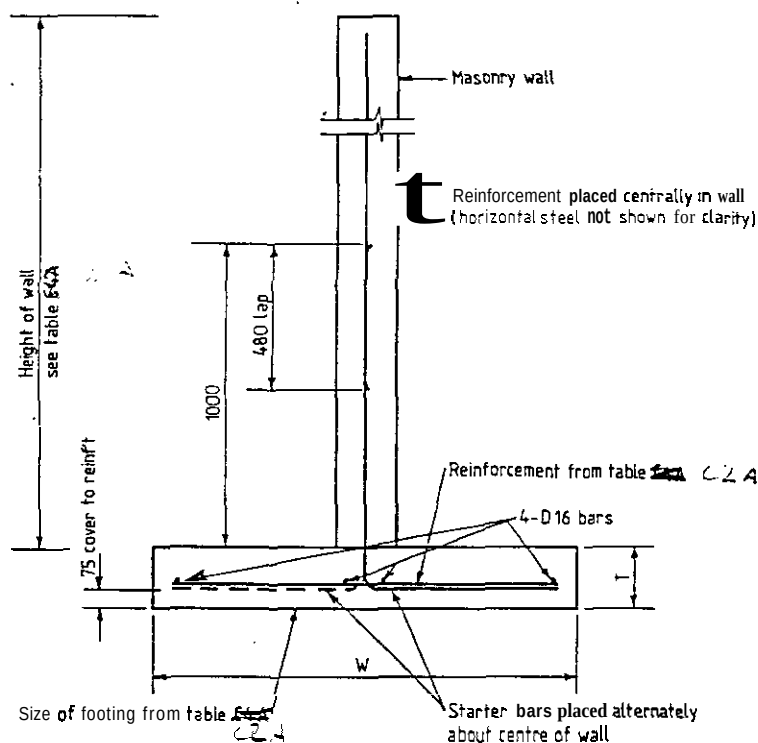

Fig. C2A
- Strip footings, centrally placed or to one side of the fire wall (see figures C2A and C2B)
Foundation dimensions and reinforcements shall be in accordance with tables C2A and C2B and figs. C2A and C2B